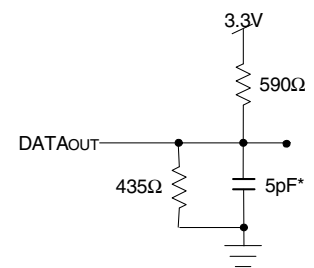

Figure 2. Output Test Load (for tLZ, tHZ, twz, tow)
1. Transition is measured 0mV from Low or High-impedance voltage with Output Test Load (Figure 2).
- Transition is measured 0mV from Low or High-impedance voltage with Output Test Load (Figure 2).